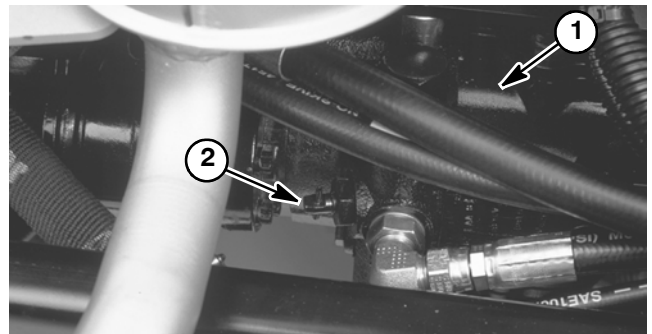
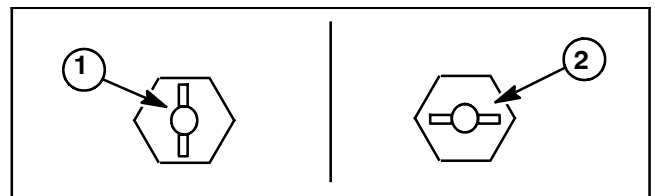

Figure 35
Figure 36
1. Locate by-pass valve on hydrostat pump (Fig. 35) and rotate it 90° to open the by-pass valve. This open position should be horizontal (Fig. 36).
3. Before starting engine, close by-pass valve by rotating it 90°. This closed position should be vertical (Fig. 36). Do not start engine when by-pass valve is open.